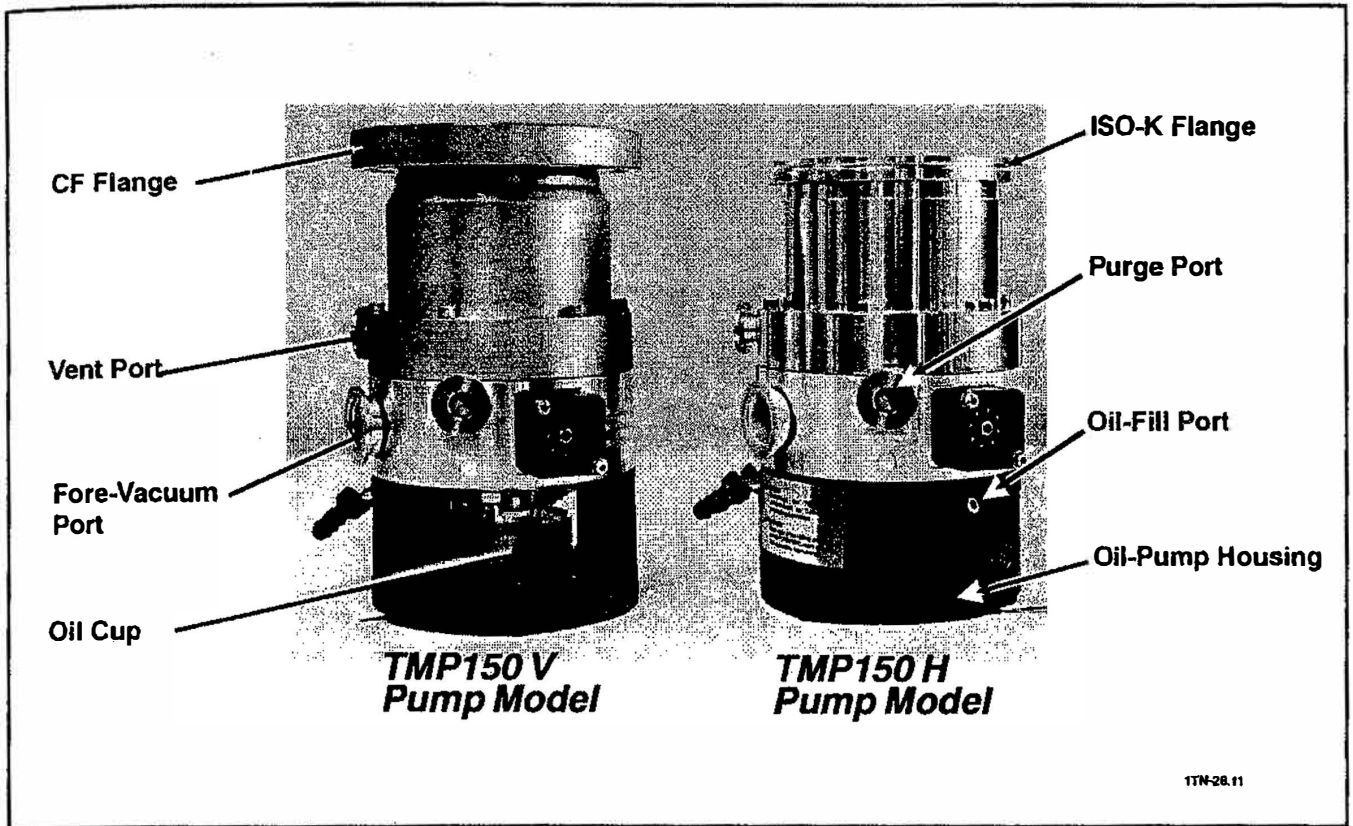

Figure 1-1. TMP150 V and H Pump Models
- **The choice of models for vertical (V) or horizontal (H) mounting** (see Figure 1-1) - The V or H after the model number indicates the mounting position (see the nameplate on the base of your pump). If you have the TMP150V or TMP360V model, never tilt it more than 15° from vertical while it is operating. The TMP150H and TMP360H models can be mounted in any angle between vertical and horizontal as long as the fore-vacuum port is mounted within its 90° A-B arc as shown in the top of Figure 2-2. Never tilt the high-vacuum flange down on any oil-lubricated turbopump and always drain the oil before shipping an oil-lubricated turbopump.
- **Purge and Vent ports on all TMP150/360 V/H pump models** (see Figure 1-1)
Remove the oil-fill capscrew and use the syringe to add the correct amount of oil to the pump. The oil-fill port is in the pump's black housing directly below the large cable connector (see Figure 1-1).